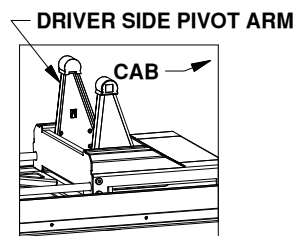
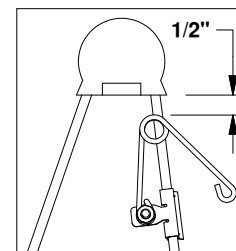

Figure D3: Base view.
Figure D4: Driver side pivot arm.
- 2. Attach kit.** Locate the flange which will be closest to the truck cab on the driver side pivot arm, see Figure D3. The clip should be placed so that when the spring's coil is in line with the edge of the arm there will be 1/2" of clearance between the bottom of the polyurethane bushing and the top of the spring, see Figure D4. Drive the clip securely onto the flange with a hammer.